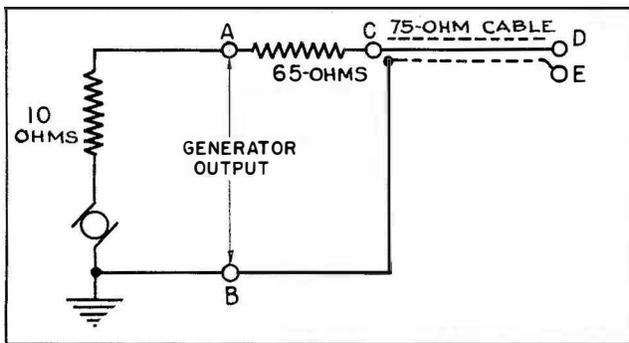

Figure 4-10—Schematic Diagram Figure 4-9 with 75-ohm Cable Added
g. If a 75-ohm Coaxial Cable of infinite length is connected to the Signal Generator through a 65-ohm series resistor as shown in Fig. 4-10 the generator will be correctly terminated and there will be no standing waves on the cable even though the end of the cable is mismatched to either of the two extreme cases (open line $Z = \infty$, or shorted line $Z = 0$). However since the cable supplied is only 3 ft. long, standing waves may be present on the higher frequencies unless the end of the cable is terminated with the characteristic impedance (75 ohms). When the cable is terminated properly (see Fig.